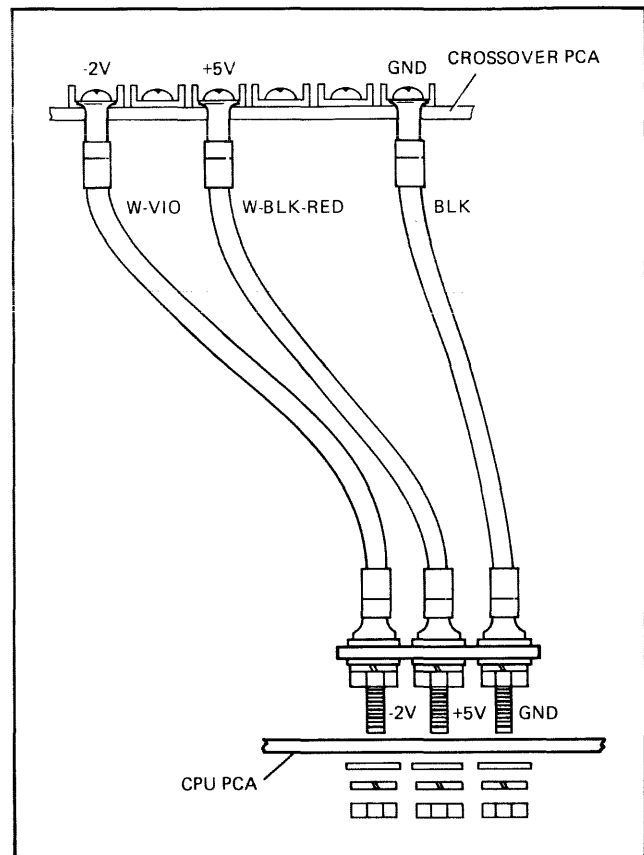

Figure 2-2. CPU Power Connections
- c. Remove the three nuts and six washers from power terminals located in center of CPU PCA. (See figure 2-2.)
- a. Carefully insert power terminals in center of CPU PCA as shown in figure 2-2. Secure power terminals to CPU PCA with the three nuts and six washers.